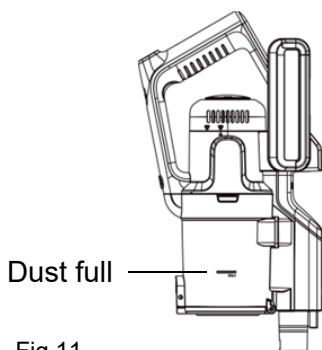

Fig.11
1. When the dust container reaches the MAX line marked on the dust container (Fig. 11) or when the suction power is reduced, it is time to empty the dust container.